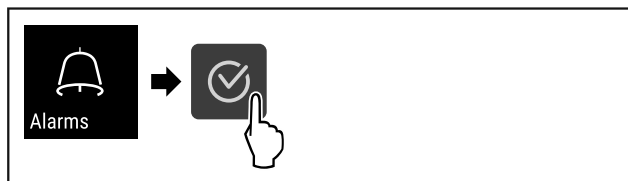

Fig. 105
- Complete steps (see Fig. 105) .